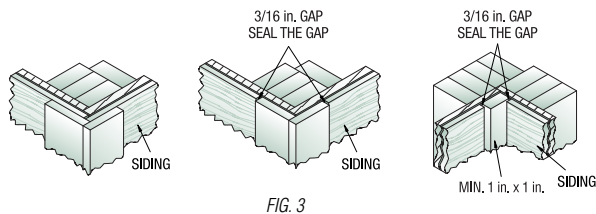

FIG. 3
- Gap the siding at all corners 3/16 in. and seal. See Fig 3.
- When butting siding to inside or outside corners, use a minimum 4/4 in. thick (nominal) dry wood material. TruWood Trim is recommended. *See Fig 3.*